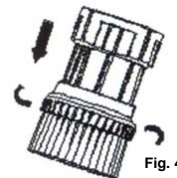

Fig. 4
- To use the flexible hose with the dusting brush, hold the hose in one hand and with the other, pull out the dusting brush and turn counter clockwise to lock in place. (Fig. 4)